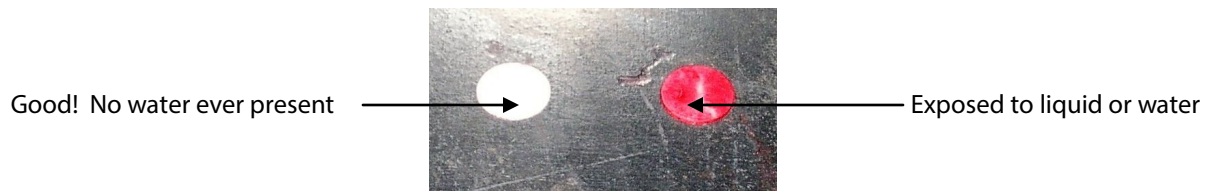

Figure 6
- ☐ Visually check cabinets for signs of moisture. Check shelf's water dots (see Figure 6). Water dots are placed on every shelf and door panel to indicate if moisture is present or has got inside the unit. The Dots are originally white in color but will turn red when water drops are absorbed.